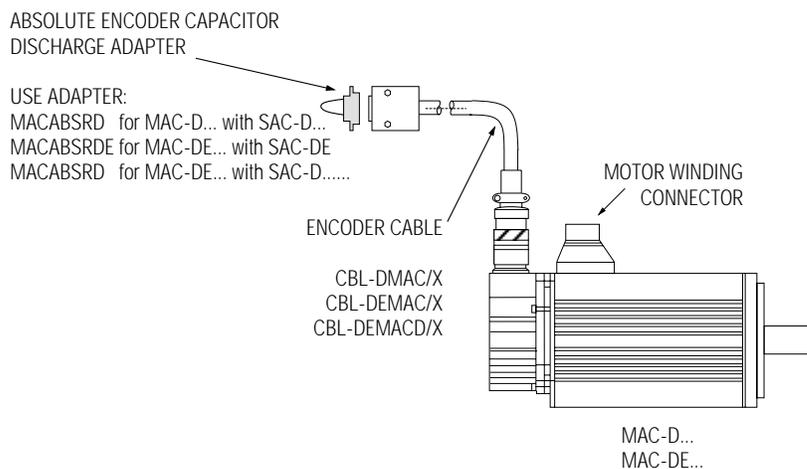

Figure 8, Absolute encoder reset adapter
- 6) Attach the absolute encoder capacitor discharge adapter (MACABSRD with SAC-D, and MACABSRDE with SAC-DE) to the servodrive end of the encoder cable (refer to Figure 8) for at least fifteen minutes.